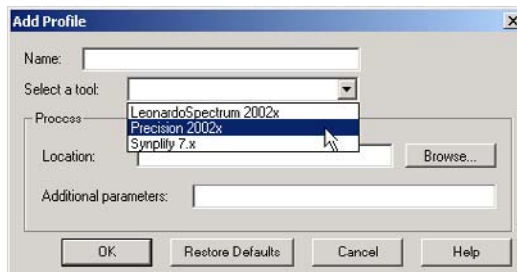

Figure 2-3. Add Profile Dialog Box in Libero IDE
- Click the **Restore Defaults** button to use the default tools included with Libero IDE. Click the **Add** button to add a different Synthesis, Simulation, or Stimulus tool. If you wish to **Add** a tool, Libero IDE opens the **Add Profile** dialog box (Figure 2-3).